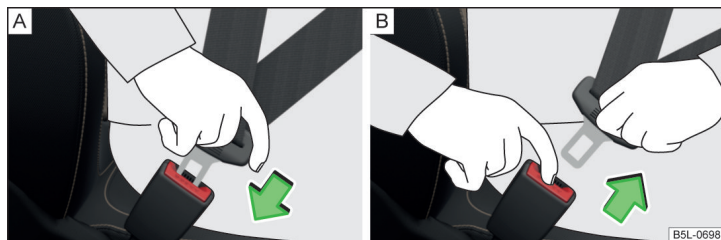

Fig. 5 Fastening/unfastening the seat belt
- › Insert the lock tongue into the belt buckle for the seat » Fig. 5 - [A] until it audibly clicks into place.
- › Press the red button in the belt buckle » Fig. 5 - [B]; the lock tongue pops out.